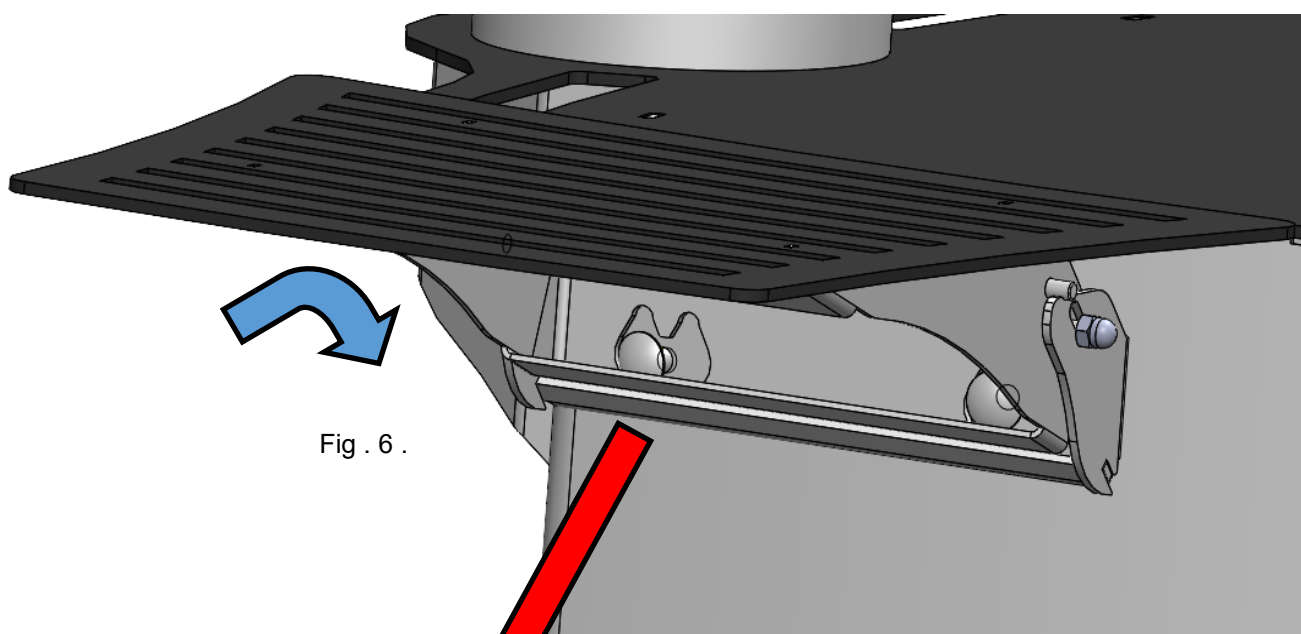
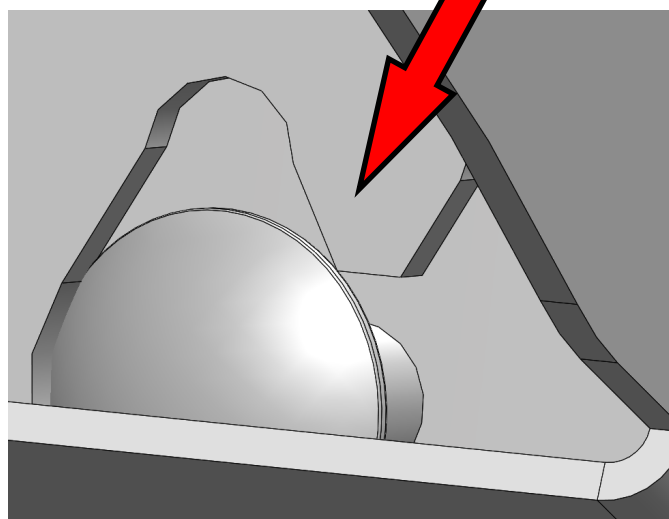

Fig . 6 .
Fig . 7 .
Step 4 : Next taking the extending shelf assembly, lower the side bracket over the 2x protruding coach bolt heads (see Fig. 6). Engage the bracket behind the head of each coach bolt and ensure the bracket drops onto the curved recess, see close up Fig. 7.